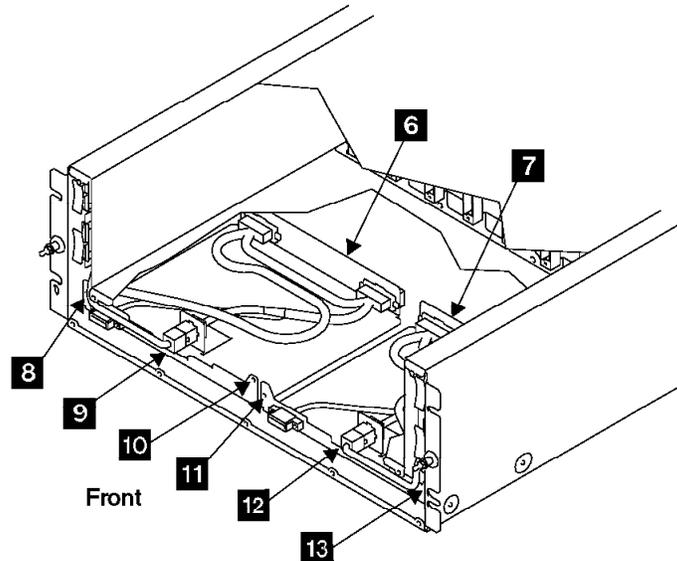

Figure 43. Drawer Power Distribution Tray Removal (T007073m)
- Right power distribution tray, not visible (R2-, R3-, R4-Yxx-V9) **7** in Figure 43 on page 35
- Left power distribution tray, not visible (R2-, R3-, R4-Yxx-V10) **6** in Figure 43 on page 35